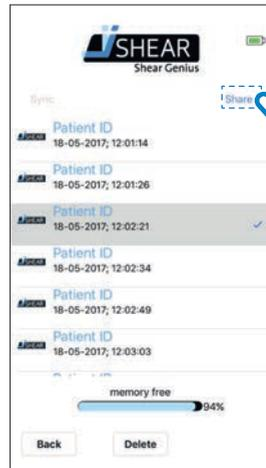
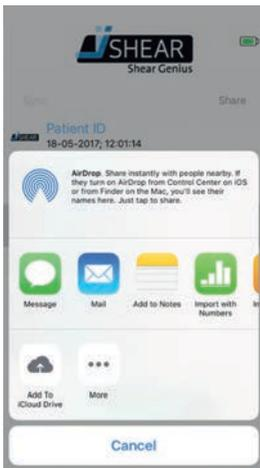

Figure 33 - Tap Share
Figure 33a - Choose app to open or share
6. Tap the Log you wish to view and tap 'share' (see Figure 33). You can now choose the app in which you would like to open and view the Log (see Figure 33a).